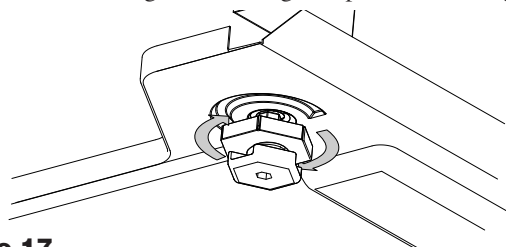

Figure 17
- After leveling, tighten the lock nuts on the rear to prevent the feet from turning when sliding into position. See Figure 17.